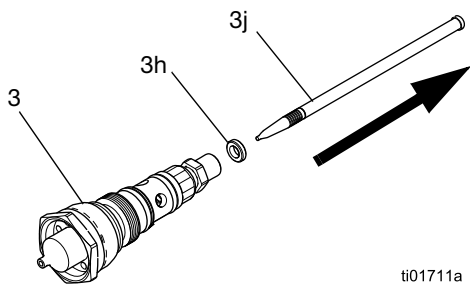

FIG. 21: Fluid Cartridge and Fluid Needle
5. Install the needle (3j) into the fluid cartridge. See FIG. 21.